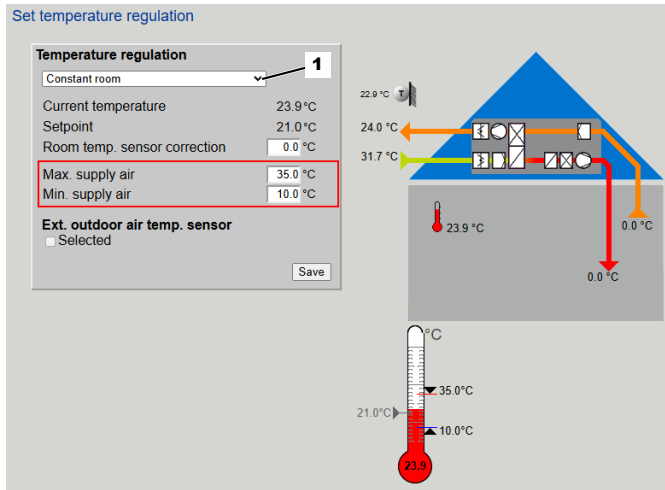

Fig. 28: Setting temperature control
- Select a function from the drop-down list ( Fig. 28 /1):